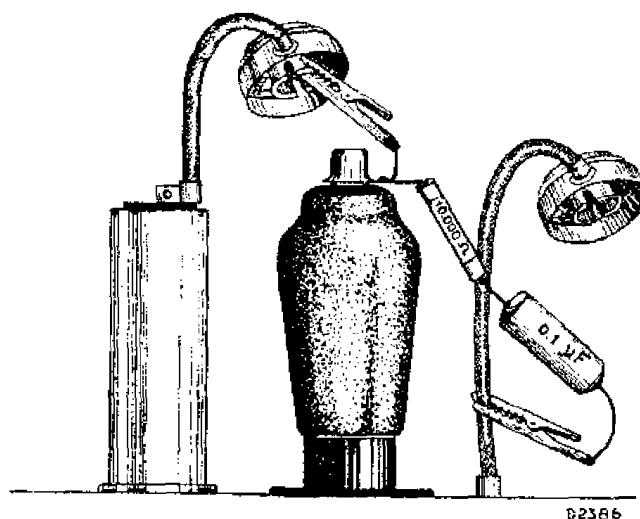

Fig. 2A.
10. Remove damping and then damp S21 with 10,000 ohms and 0.1 μF between grid of L2 and chassis (see Fig. 2A). Damp S22 with 25,000 ohms and 0.1 μF between anode pin of L2 and the chassis.